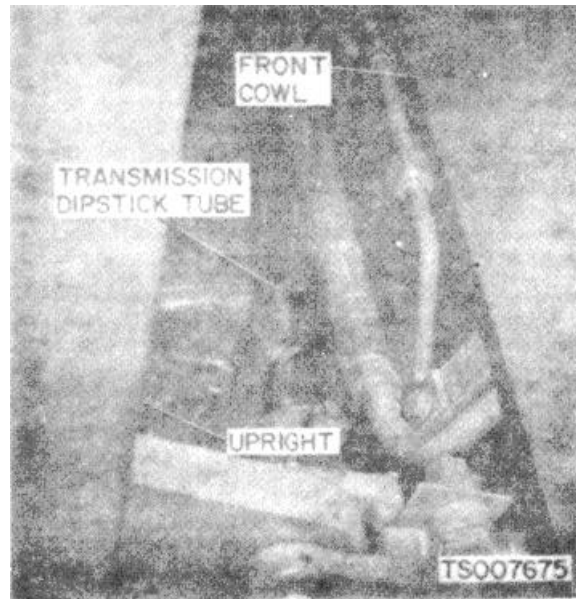

Figure 3-3. Transmission Dipstick Location
| 17       |          |   |   |   | • | TRANSMISSION OIL (fig. 3-3)Check fluid level on dipstick on filler cap on axle housing. Add transmission fluid as necessary to bring level up to FULL mark on dipstick.   | Belt slips.  |
measured on a dipstick (fig. 3-3) that is installed on the filler cap on the top front of the axle housing.
(2) To check the transmission fluid level, put the direction shift lever in neutral and start the engine. Run the engine for approximately four minutes. Stop the engine and remove the filler cap and dipstick (fig. 3-3) from the top front of the axle housing. Check the fluid level on the dipstick. If necessary, fill to the FULL mark on the dipstick, using the transmission fluid specified in the lubrication order.
(3) Install the filler cap and dipstick. Recheck fluid level.
(4) To change the transmission fluid, run the truck to warm the fluid to operating temperature. Drain the fluid by removing the transmission drain plug and differential drain plug at the bottom of the truck.
(6) Reinstall the drain plugs and refill the transmission through the filler hole at the top front of the differential housing. Fill until the level is to the FULL mark on the dipstick of the filler cap and dipstick (fig. 3-3). Run the engine at fast idle with the direction shift lever in neutral. Recheck the transmission fluid level and add to bring level to the FULL mark.